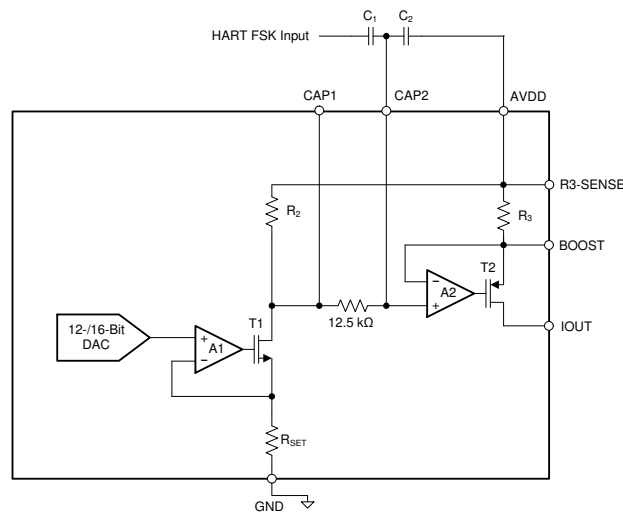

Figure 9-1. Implementing HART on IOUT Using the CAP2 Pin
The first method to implement HART is to couple the signal through the CAP2 pin, as shown in Figure 9-1.
In Figure 9-1, R_3 is nominally 40 Ω , and R_2 depends on the current output range (set by the RANGE bits), described as follows:
When the input HART frequency is greater than the 3-dB frequency, the ac signal is seen at the plus input of amplifier A2, and is therefore seen across the 40- Ω resistor. To generate a 1-mA signal on the output therefore requires a 40-mV peak-to-peak signal on CAP2. Most HART modems do not output a 40-mV signal; therefore, a capacitive divider is used in Figure 9-1 to attenuate the FSK signal from the modem. In Figure 9-1, the high-pass cutoff frequency is $1 / (2 \times \pi \times [R_2 + 12.5 \text{ k}\Omega] \times [C_1 + C_2])$. There is one disadvantage to this approach: if the AVDD supply is not clean, any ripple on the supply could couple into the device.
- As illustrated in Figure 9-1, CAP2 is directly connected to the input of the final IOUT amplifier. Any noise or unwanted ac signal routed near the CAP1 and CAP2 pins could capacitively couple onto internal nodes and affect IOUT. Therefore, make sure to avoid routing any digital or HART signal traces over the CAP1 and CAP2 traces.